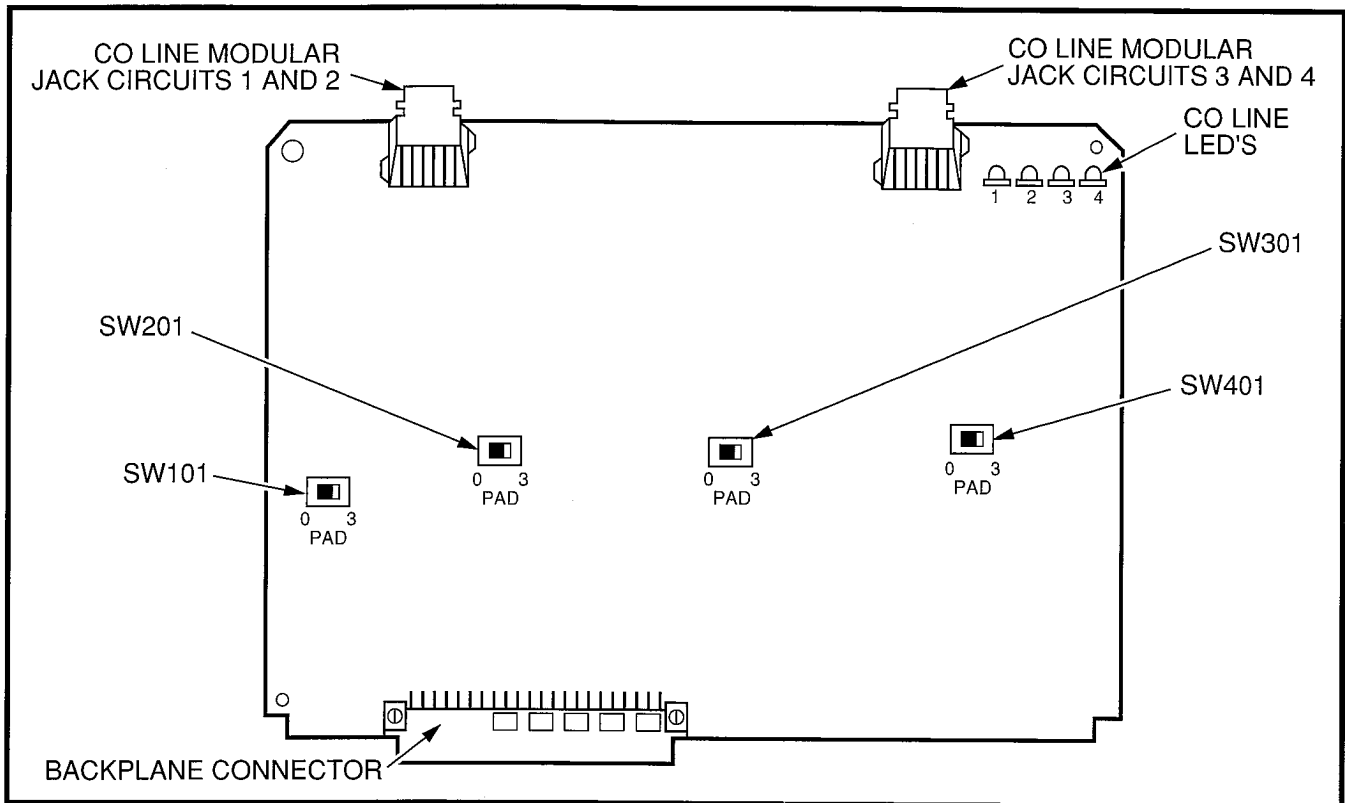

FIGURE 6-8—PCOU CONTROLS, INDICATORS, AND INTERFACE CONNECTORS
7.02 PCOU controls, indicators, and interface connectors are shown in Figure 6-8 and described in Table 6-E.